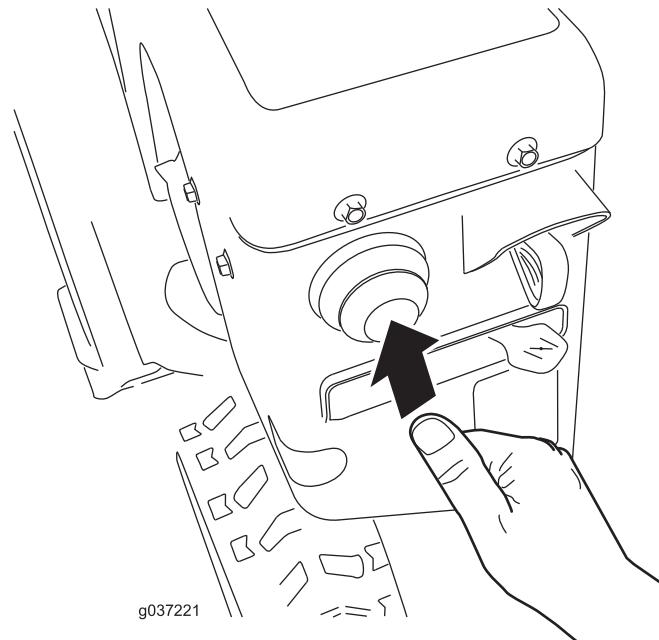

Figure 22
4. Firmly push in the primer with your thumb as indicated by the table below, holding the primer in for a second before releasing it each time (Figure 22).